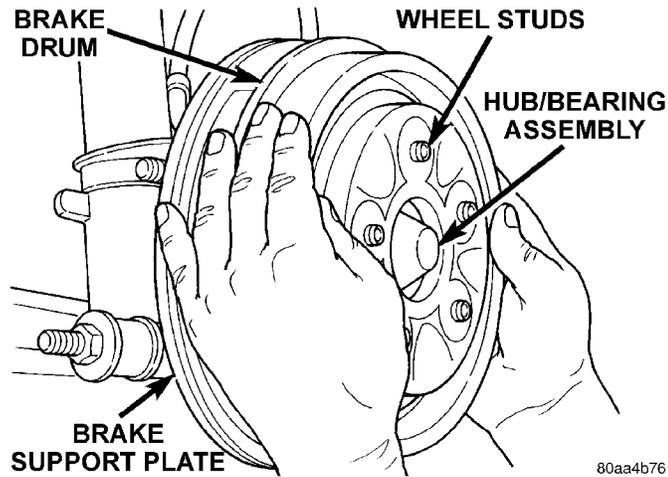

Fig. 141 Brake Drum Removal
(12) Raise vehicle on jackstands or centered on a frame contact type hoist. See Hoisting in the Lubrication and Maintenance section of this manual for the required lifting procedure to be used for this vehicle.
(13) Remove rear wheel and tire assembly.
(14) On vehicles equipped with rear drum brakes, remove brake drum (Fig. 141) from rear hub/bearing assembly. On vehicles equipped with rear disc brakes, remove disc brake caliper from disc brake